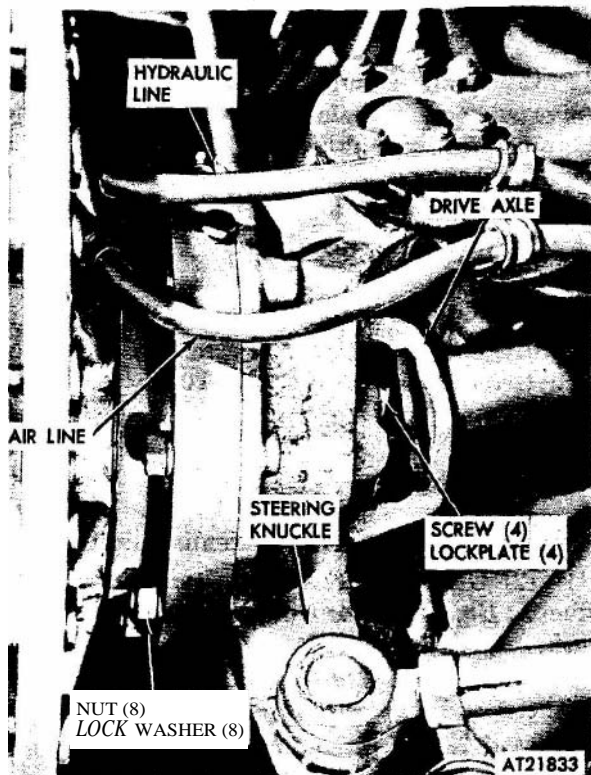

Figure 2-180. Service brake assembly (at tractor right front), **removal and** installation.
(1) Jack wheel until tire is clear of ground or floor and remove wheel and tire assembly (refer to TM 9-2320-242-10).
(2) Disconnect hydraulic and air lines from wheel spindle.
(3) Disconnect stub axle flange from drive axle universal joint by removing four screws and lock plates (fig 2-180).
(4) Support brake assembly with *a* suitable jack and remove eight nuts and lock washers securing brake assembly to steering knuckle (fig 2-180).
(1) Insert stub axle shaft through brake assembly wheel spindle. Secure center of brake drum to stub axle with gasket, lock plate, additional gasket, and screw. Torque screw 55-70 **lbs-ft.** and bend lock plate tab against screw.
(2) Support and position brake assembly on steering knuckle mounting studs. Secure brake assembly with eight nuts and lock washers (fig 2-180). Torque nuts 40-50 lbs-ft.